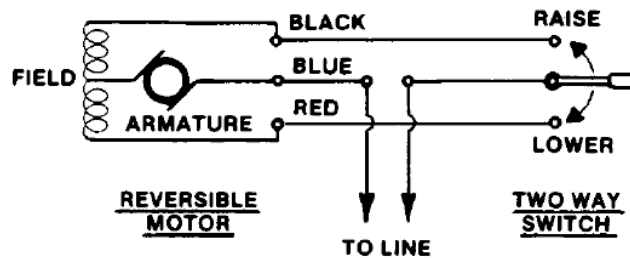
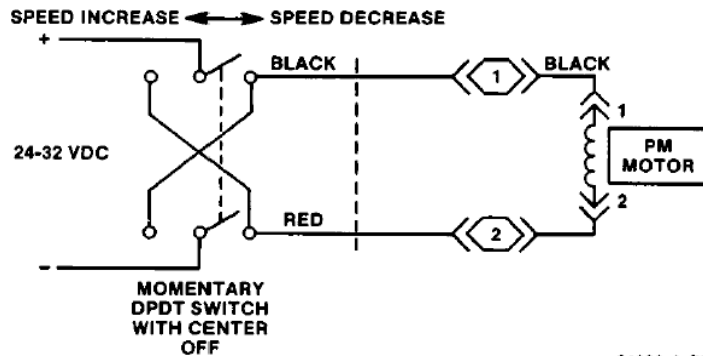

Figure 7. Wiring Diagram for Bodine Motor (switch not furnished)
Figure 9. Diagram for PM Motor (switch not furnished)
The Bodine motor and the Permanent Magnet (PM) motor are coupled to the governor speed-setting mechanism through a friction clutch. If the operator runs the speed adjustment to its limit, the clutch is set to slip, thereby protecting the speed-adjusting motor. Connect the electric speed-setting motor as shown in Figure 7 or 9. Figure 7 is for the Bodine motor, and Figure 9 is for the PM motor. Voltage for the Bodine motor is shown on the motor.